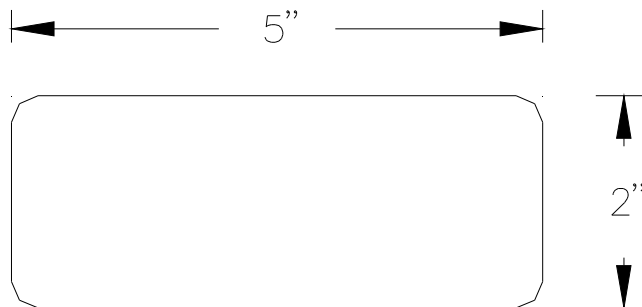

Figure 20.2.2
-) Make two doublers from .032 raw stock (W-143). Figure 20.2.2.